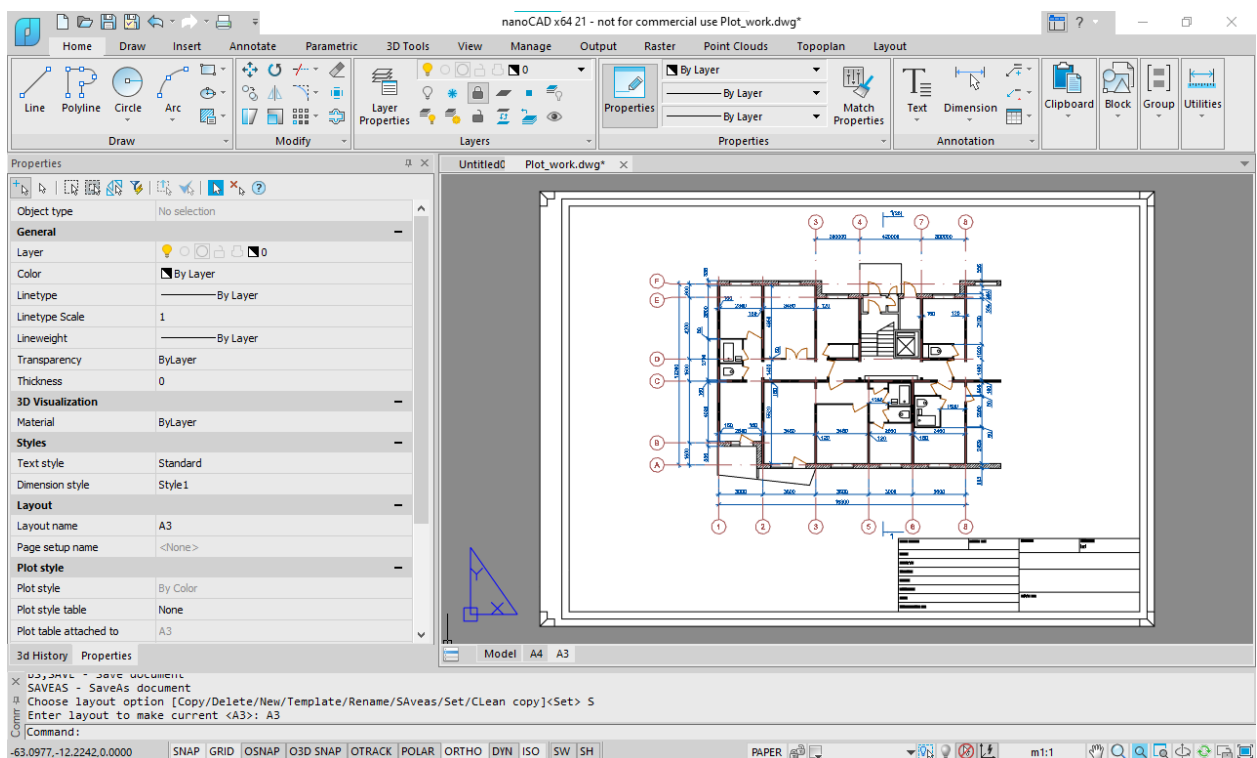

Fig. 47. Paper space
1. Plot from the paper space to Internal PDF Printer (fig. 47).